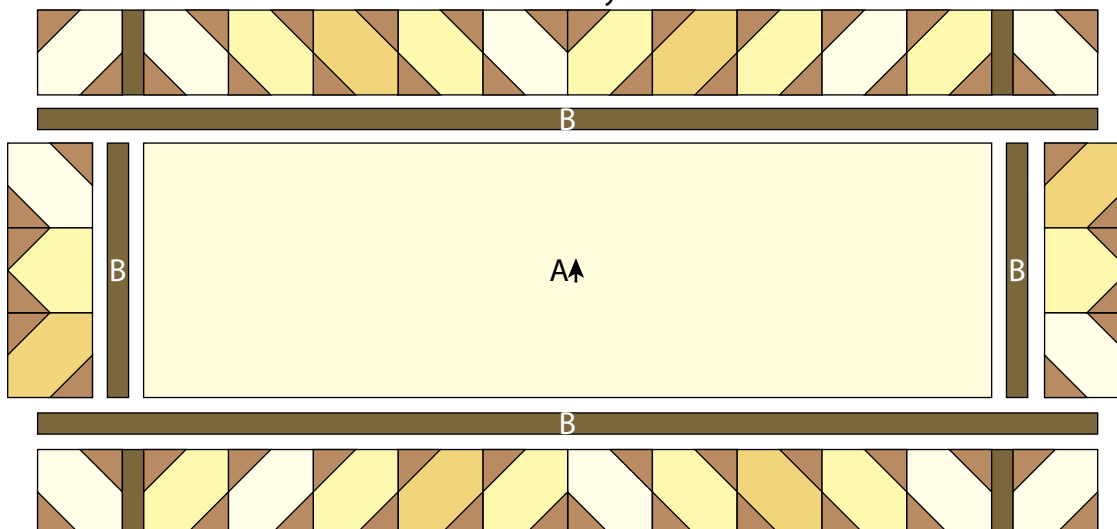

Fig. 27
*(Follow the Runner Layout in Figure 27 while assembling the runner.)*
16. Sew (1) 1 ½" x 12 ½" Fabric B strip to each end of the 40 ½" x 12 ½" Fabric A strip to make the Runner Center Block.
18. Sew (1) 1 ½" x 50 ½" Fabric B strip to the top and to the bottom of the Runner Center Block.
21. Sew the (4) 2 ½" x WOF Fabric B strips together, end to end with 45-degree seams, to make the binding. Fold this long strip in half lengthwise with wrong sides together and press.